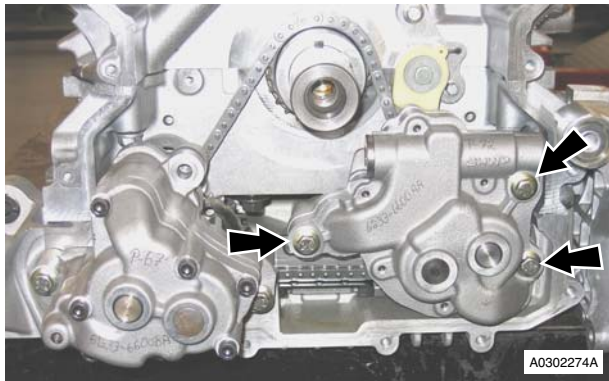

Figure 2
6. Remove bolts (x3) securing oil pressure pump to sump (see Figure 2).